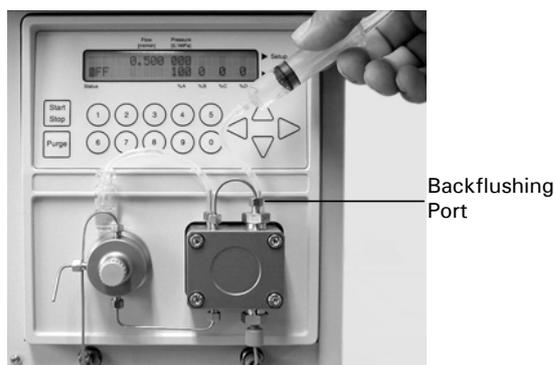

FIGURE 2-39 Filling the Backflushing System of Pump Head
- c) Force the liquid through the pump head until liquid appears in the container (FIGURE 2-39).